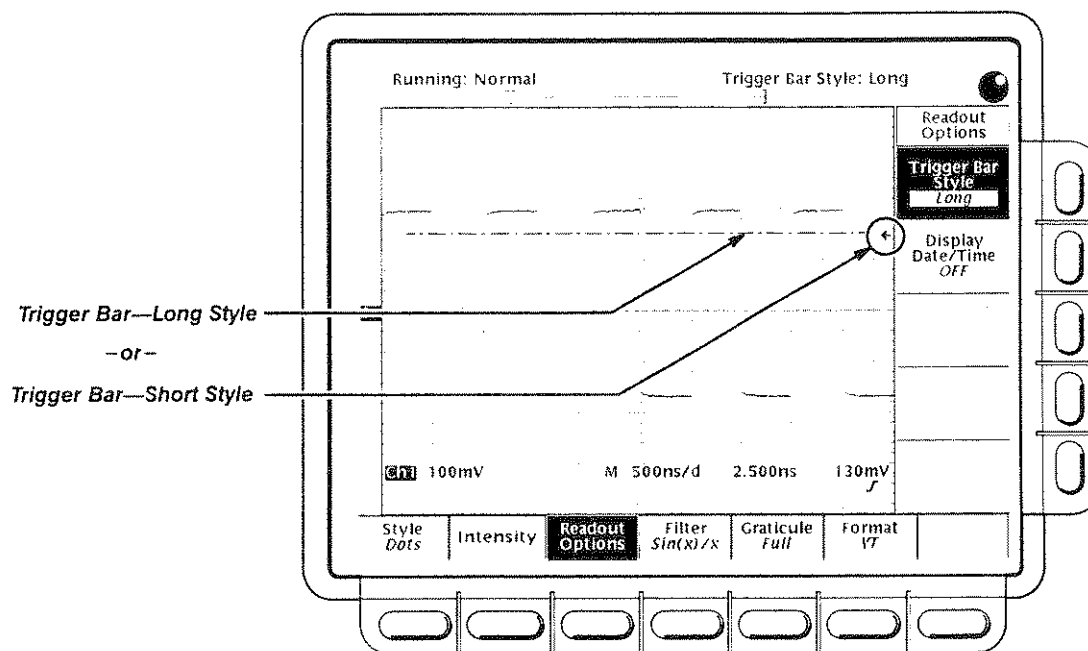

Figure 3-12: Level Indicators
2. Toggle **Trigger Bar Style** (side) to select either the short or the long trigger bar or to turn the trigger bar off. (See Figure 3-12. Note that the figure shows both styles for illustrating purposes, but you can only display one style at a time.)